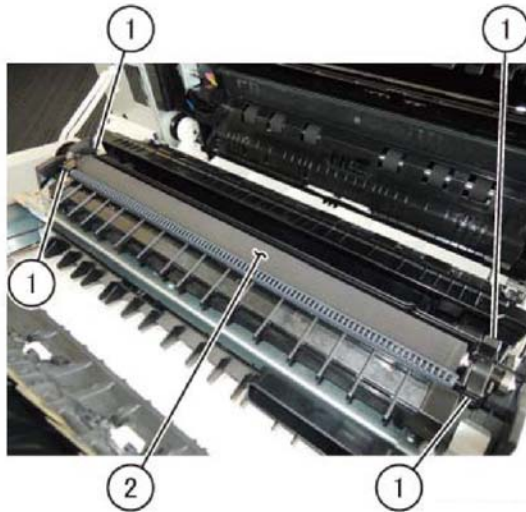

Figure 1 BTR roll assembly removal
2. Disengage the hooks (1) on front and rear, then remove the BTR assembly (2), Figure 1.